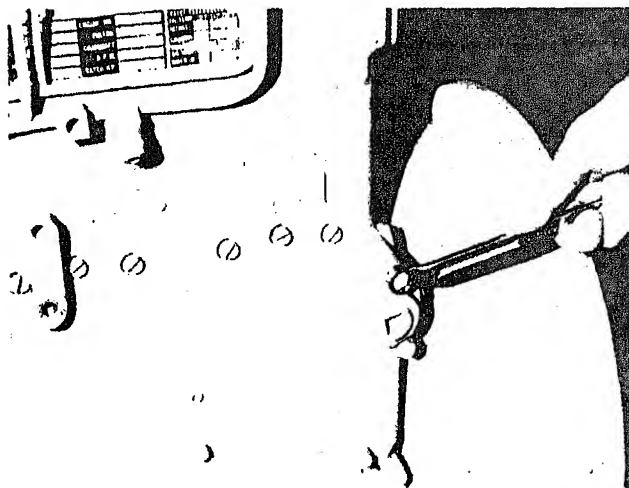

Fig. 0-16. Removing cap screws from oil transfer connection N20037
1. Remove capscrews, lockwashers and flatwashers from oil transfer connection, Fig. 0-16.